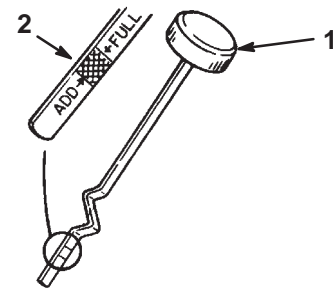

Figure 14
7. Clean around the oil dipstick (Fig. 14) so that dirt cannot fall into the fill hole and damage the engine.
8. Unscrew the oil dipstick and wipe the metal end clean (Fig. 14).
9. Place a pan below the oil drain plug and remove it (Fig. 14).
12. Slowly pour approximately 80% of the specified amount of oil into the fill hole (Fig. 14). Check the oil level; refer to steps 4 and 5 of Checking the Oil Level on page 20.